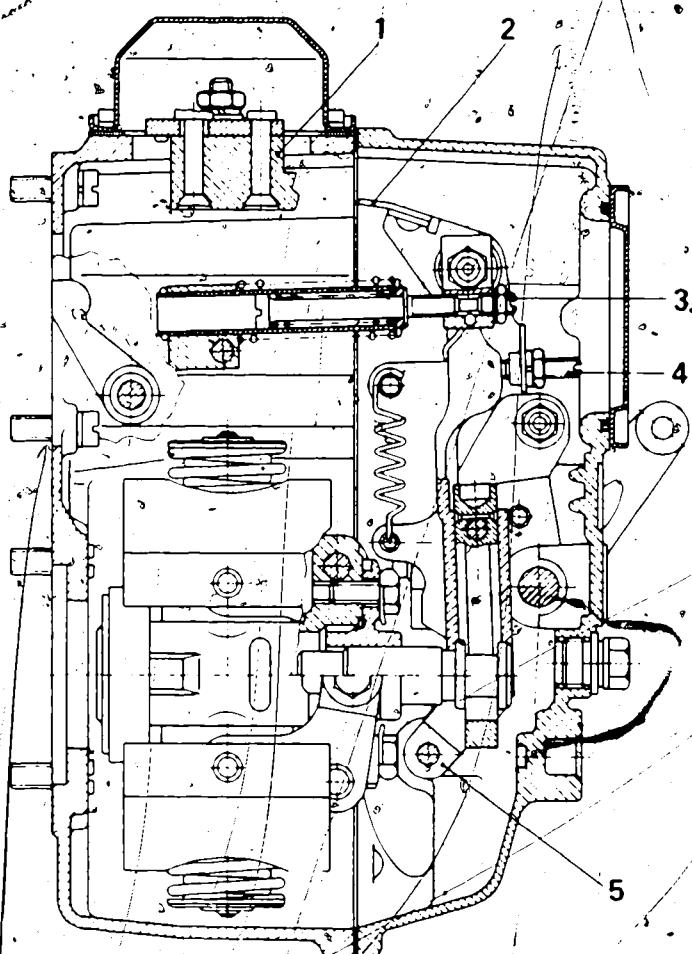

Fig. 3
In this case, when the pressure charger has not yet built up enough pressure for the MPC to respond, the full-load delivery is taken up by the stop screw of the elbow lever in the MPC. When the pressure charger is delivering sufficient pressure for the MPC to respond, full-load delivery values are set with the adjustable stop lug (Fig. 3) in the governor housing. The stop screw in the MPC housing is then set to the full-load control-rod travel + 0.5 mm.
See notes on Fig. 13 in VDT-W-420/303. Set 12.7 mm control-rod travel at full-load stop (Fig. 3). Set speed regulation at a speed of 1135...1145 min⁻¹ at the speed stop screw. Replace MPC, if removed.
Correct at the adjusting screw of the rocker (Fig. 3).
- Always reset full-load stop (Fig. 3) to 12.7 mm control-rod travel at speed of 850 min⁻¹.